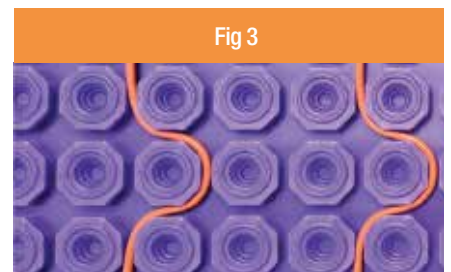

Fig 3
- For a tighter fit, you can "lock" the cable in place as seen in Fig 3, this should be done once every 1 to 2 metres.